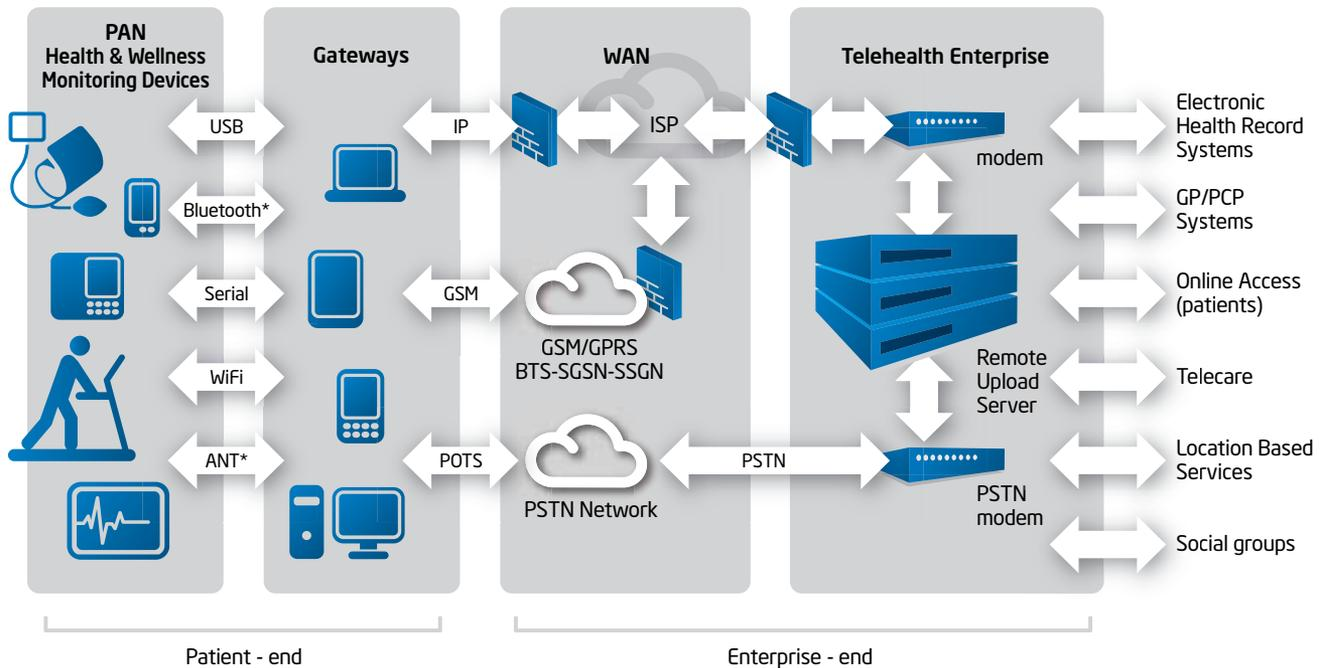

Figure 1. Telehealth Infrastructure
Telehealth uses information and communication technology (ICT) to deliver health services and information to patients outside of clinical settings, typically to the home. Using a home health gateway connected to monitoring devices, as shown on the left side of Figure 1, patients can take an active role in their healthcare. These telehealth systems promote greater patient engagement and more efficient care by combining an in-home patient device with an online interface, allowing clinicians to remotely monitor and care for patients.
The wide area network (WAN) portion of the telehealth infrastructure (Figure 1) supports various types of communication services, including the Internet via the Internet Protocol (IP), mobile broadband (e.g., GSM), and landlines providing plain old telephone service (POTS). The WAN supports healthcare service providers through the public switched telephone network (PSTN) or Internet connections.